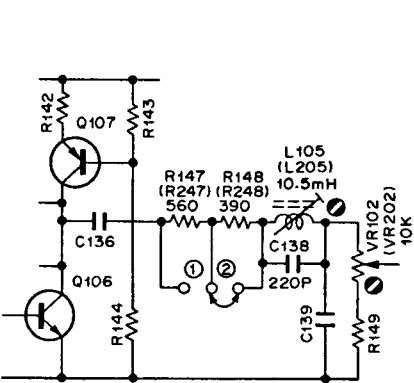

Fig. 7.5
Main P.C.B. R147, R247 R148, R248	- Load the 400 Hz level tape and play it back. Adjust the output level control to a certain level (example 0 dB). - Load the 10 kHz, 15 kHz and 20 kHz PB frequency response tapes and adjust the playback head azimuth to give maximum levels on the VTVM with each tape. Short R147 (R247) and/or R148 (R248) to obtain the following level against 400 Hz level tape. Refer to Fig. 7.5. 10 kHz: - 20 dB -1 dB to +2 dB 15 kHz: - 20 dB -1 dB to +3 dB 20 kHz: - 20 dB -1 dB to +4 dB - Conduct step 6 "Playback Head Azimuth Alignment". - If above is not sufficient, refer to "Playback Frequency Response Adjustment" in item 7.2.1.